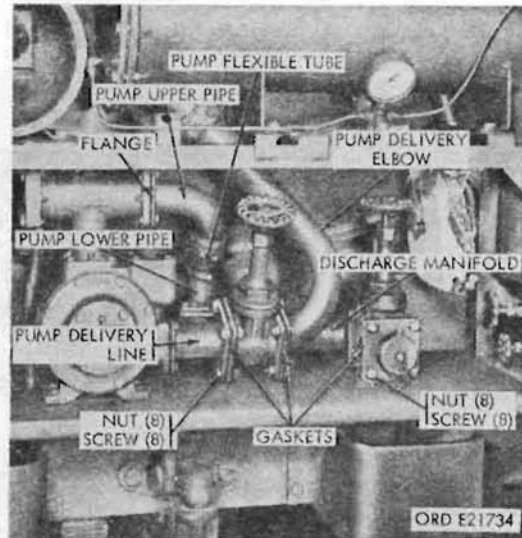
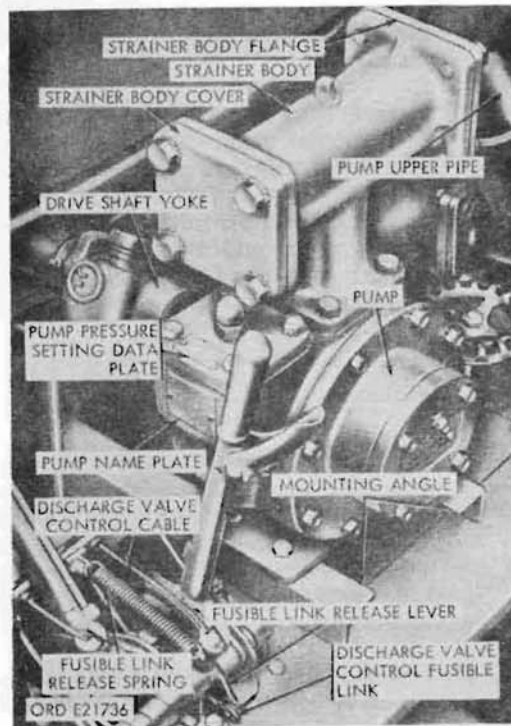

Figure 299. Gate valves and discharge manifold
Figure 301. Delivery pump
- (1) **Removal.** Remove eight safety nuts and screws holding gate valve to flanges on discharge manifold (fig. 299) and gravity delivery line, and remove valve. Discard flange gaskets.
- (2) **Installation.** Position new flange gaskets on flanges on manifold and gravity delivery line, and install delivery-line gate valve between flanges. Secure valve to flanges with eight hex-head screws and safety nuts.
c. Pump Delivery-Line Gate Valve (Fig. 299).
- (1) **Removal.** Remove eight safety nuts and screws holding gate valve to pump delivery line and pump delivery elbow flanges. Discard flange gaskets.
268. Discharge Manifold (Fig. 299)
a. Removal. Remove four safety nuts and screws holding pump lower pipe to compartment discharge manifold (fig. 299). Remove
four screws and lockwashers holding strainer body flange on strainer body (fig. 301) and remove pump upper and lower pipes (fig. 299) and pump flexible tube from strainer body and manifold. Remove two clamps holding flexible tube on upper and lower pipes, and remove flange from upper pipe. Discard gaskets.
- (1) Removal. Remove four screws and lockwashers securing strainer body cover to strainer body (fig. 301) and remove cover and gasket. Remove gasket from cover. Clean gasket particles from cover and strainer body. Discard gasket.
- (2) Installation. Position new gasket on strainer body and place body cover over gasket on body. Secure cover to body with four hex-head screws and external-teeth lockwashers.